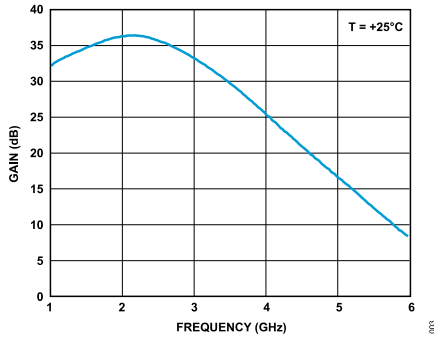

Figure 4. Receive Operation, High Gain
6. The ADRF5519-EVALZ is expected to have a high and low receive gain of 35 dB and 14 dB, respectively, at 2.6 GHz. See the expected results in Figure 4 to Figure 7.